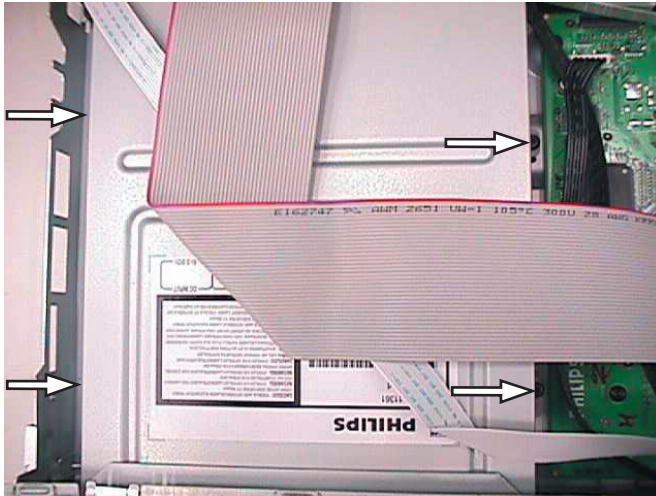

Figure 4-10
- 1) Remove 4 screws to loosen the Basic Engine assembly 1005+258+902 as shown in Figure 4-10.